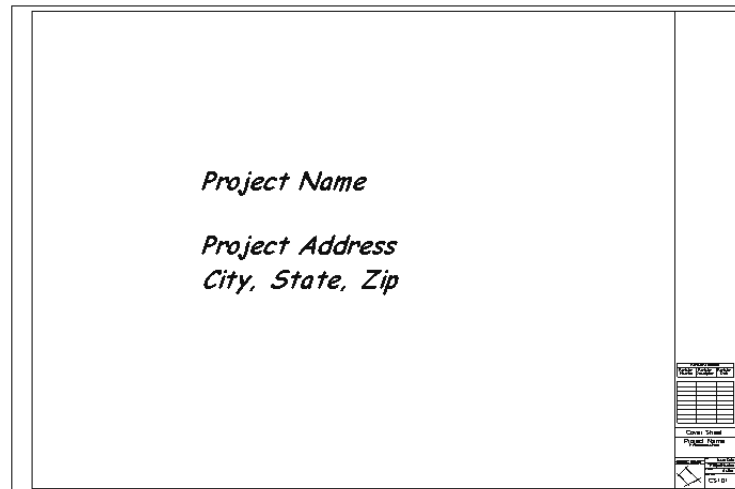

**Figure 1–54**
2. In the Revision Properties dialog box, *Fields* tab, set up the fields as shown in Figure 1–54.